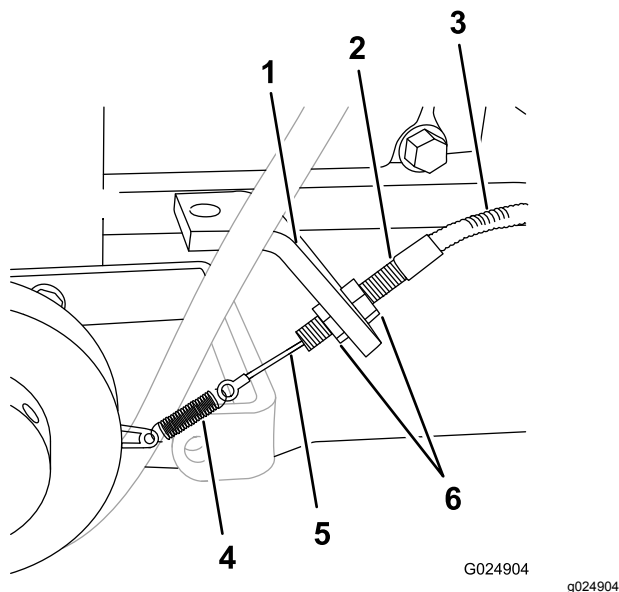

Figure 25
2. Loosen the 2 jam nuts that secure the barrel of the clutch cable to the clutch bracket, and rotate the nuts to either end of threads on the barrel (Figure 25).
4. While holding tension on the cable, use your other hand, rotate the jam nuts until the nuts are flush to the clutch bracket (Figure 25).
5. Tighten the jam nuts to secure the barrel to the bracket (Figure 25).
- A. Loosen the 2 jam nuts slightly (Figure 25).
- B. Rotate the jam nuts to clockwise to increase cable tension or counterclockwise to decrease tension (Figure 25).
- C. Tighten the jam nuts to secure the barrel to the clutch bracket (Figure 25).